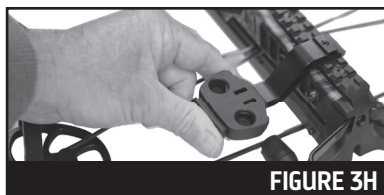

FIGURE 3H
3. Press the button located on the side of the quiver bracket and insert the quiver into the mounting holes as shown in Figure 3H.